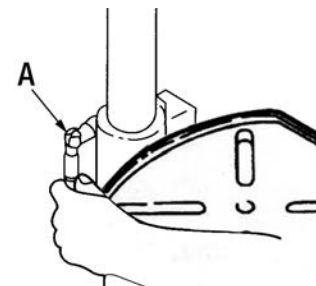

FIGURE 12
10. Locate the support lock handle (A) Fig.12 in loose parts bag and tighten by hand.